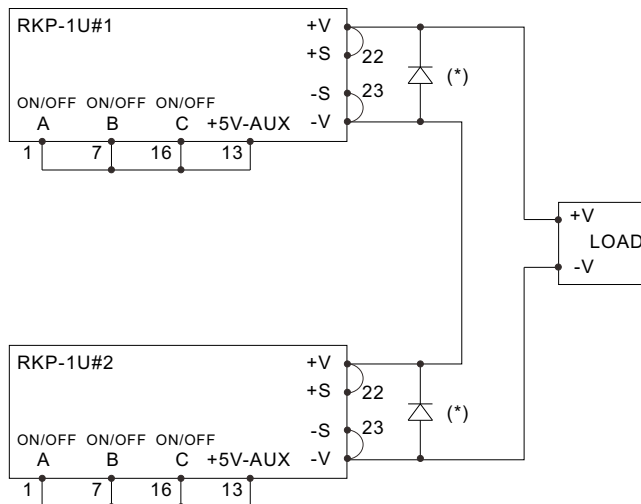

Figure 3-9 Operating in series connection
- ⊙The racks (RKP-1U□) connected in series should have the same single unit (RCP-2000-□) in each rack. Please refer to Figure 3-9 for the reference connection method.
- ⊙It is suggested to add on external diodes (\*) shown in Figure 3-9 to prevent the reverse voltage. Rating of these diodes should be higher than the total amount of output voltage and current.